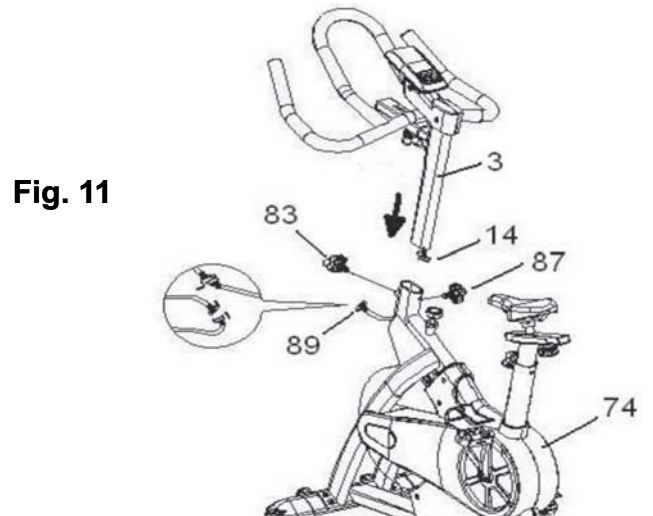

Fig. 11
Place the handlebar (4) on the handlebar stem (3) and tighten knob (5) shown in Fig. 4. Insert the handlebar stem into the main body (74) shown in Fig. 11 and tighten the knobs (83 & 87) by turning them clockwise. Plug the connector (14) from the handlebar post into the connector (89) from the main body (74). Place the cap (15) and secure with screws (13) (Fig. 11)
- **Handlebar Horizontal Adjust:** loosen the knob (5) by turning counterclockwise; move the handlebar to a distance comfortable for doing exercise and then tighten the knob (5).
Mount the bottle holder (85) to the side of the front fork using screws (86) (fig. 11)